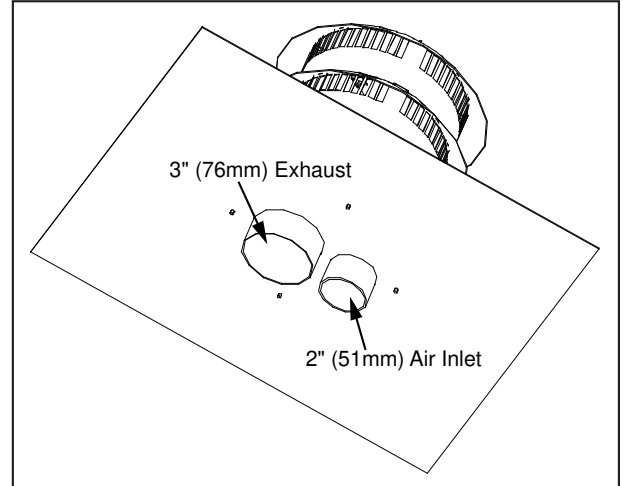

Figure 30: Vertical Vent Cap Underside.
6. Place a bead of high temperature silicone on the intake collar of the fireplace, slide the Ø2" (51mm) flex intake liner over the collar, secure the flex liner with three (3) sheet metal screws evenly spaced.
7. At the top of the chimney, apply a bead of Mill-Pac Black sealant to the Ø3" (76mm) pipe of the vent terminal (refer to Figure 30). Slide the flex liner onto the vent terminal and secure with three (3) sheet metal screws evenly spaced.
8. Place a bead of high temperature silicone on the intake collar of the vent terminal (refer to Figure 30). Slide the Ø2" (51mm) flex intake liner over the collar, secure the flex liner with three (3) sheet metal screws evenly spaced.